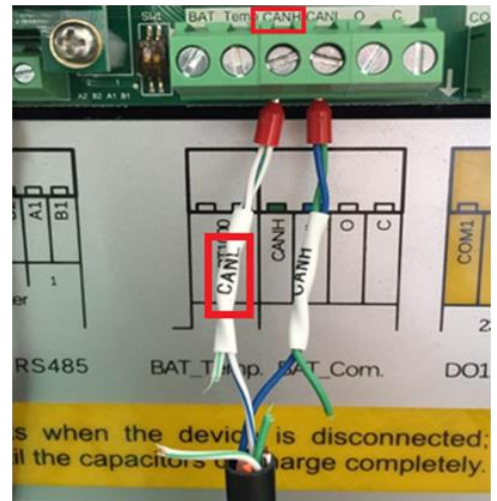

Figure 13: Swapping CANH and CANL
Step 4: Plug CANH into the CANL port and plug CANL into the CANH port of the configuration circuit board of SH5K+ (Figure 13).